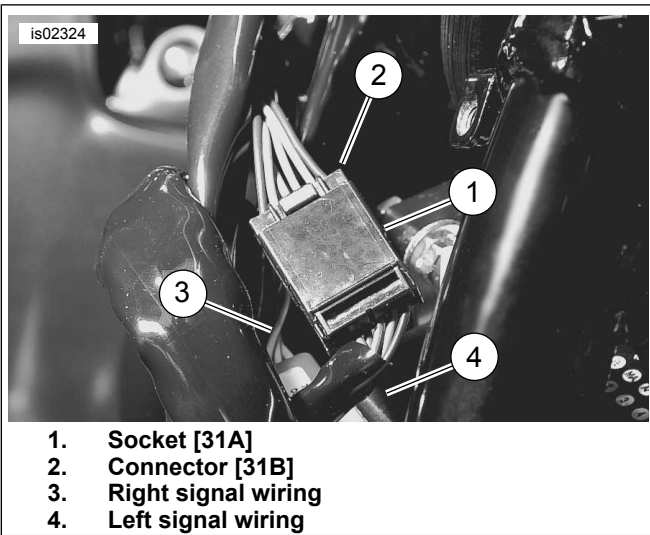

Figure 8. Remove Turn Signal Connector 31 (2004 models)
5. See Figure 8(2004 models). Locate turn signal connector [31B] and disconnect from socket [31A]. Note left and right turn signal wire locations. Follow instructions in Service Manual under Multilock Electrical Connectors (Socket Terminal Removal/Installation) and remove left and right front turn signal Socket Terminals from connector.